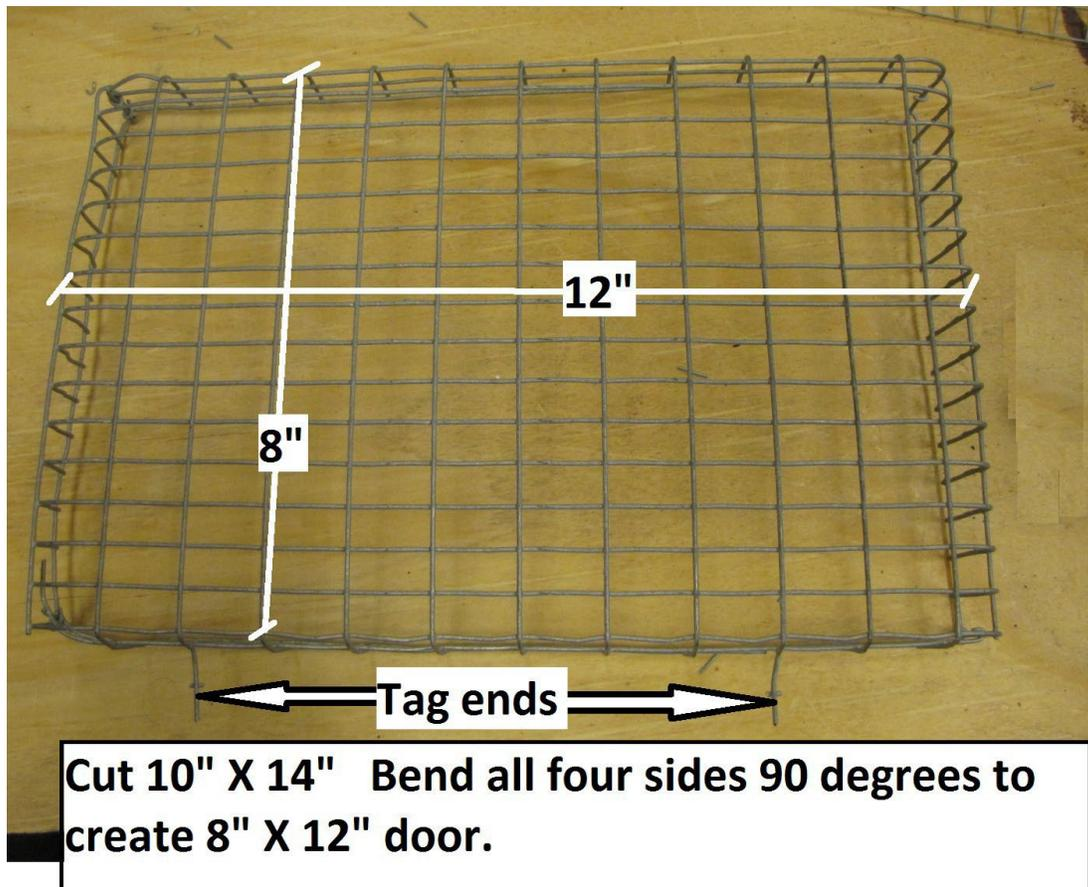

Figure 1-37
3. Cut another piece of the 1" X ½" wire 10" X 14". Bend over 1" on all four sides to create an 8" X 12" door. On the bottom leave 2 tag ends to use in attaching to frame (Figure 1-37).